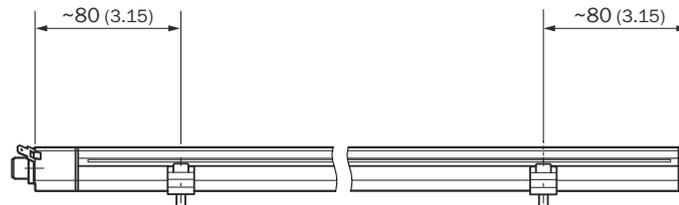

Figure 17: DAX Low Profile mounting brackets
- b) For the Low Profile housing design, locate the first mounting bracket approx. 80 mm from the sensor head and the last mounting bracket approx. 80 mm before the end of the slider profile (see figure 17, page 21).